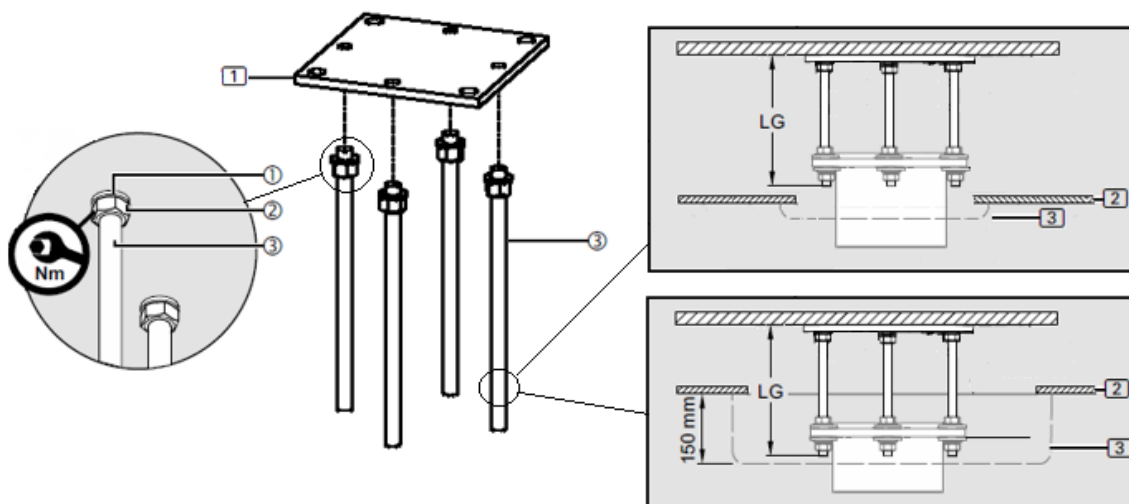
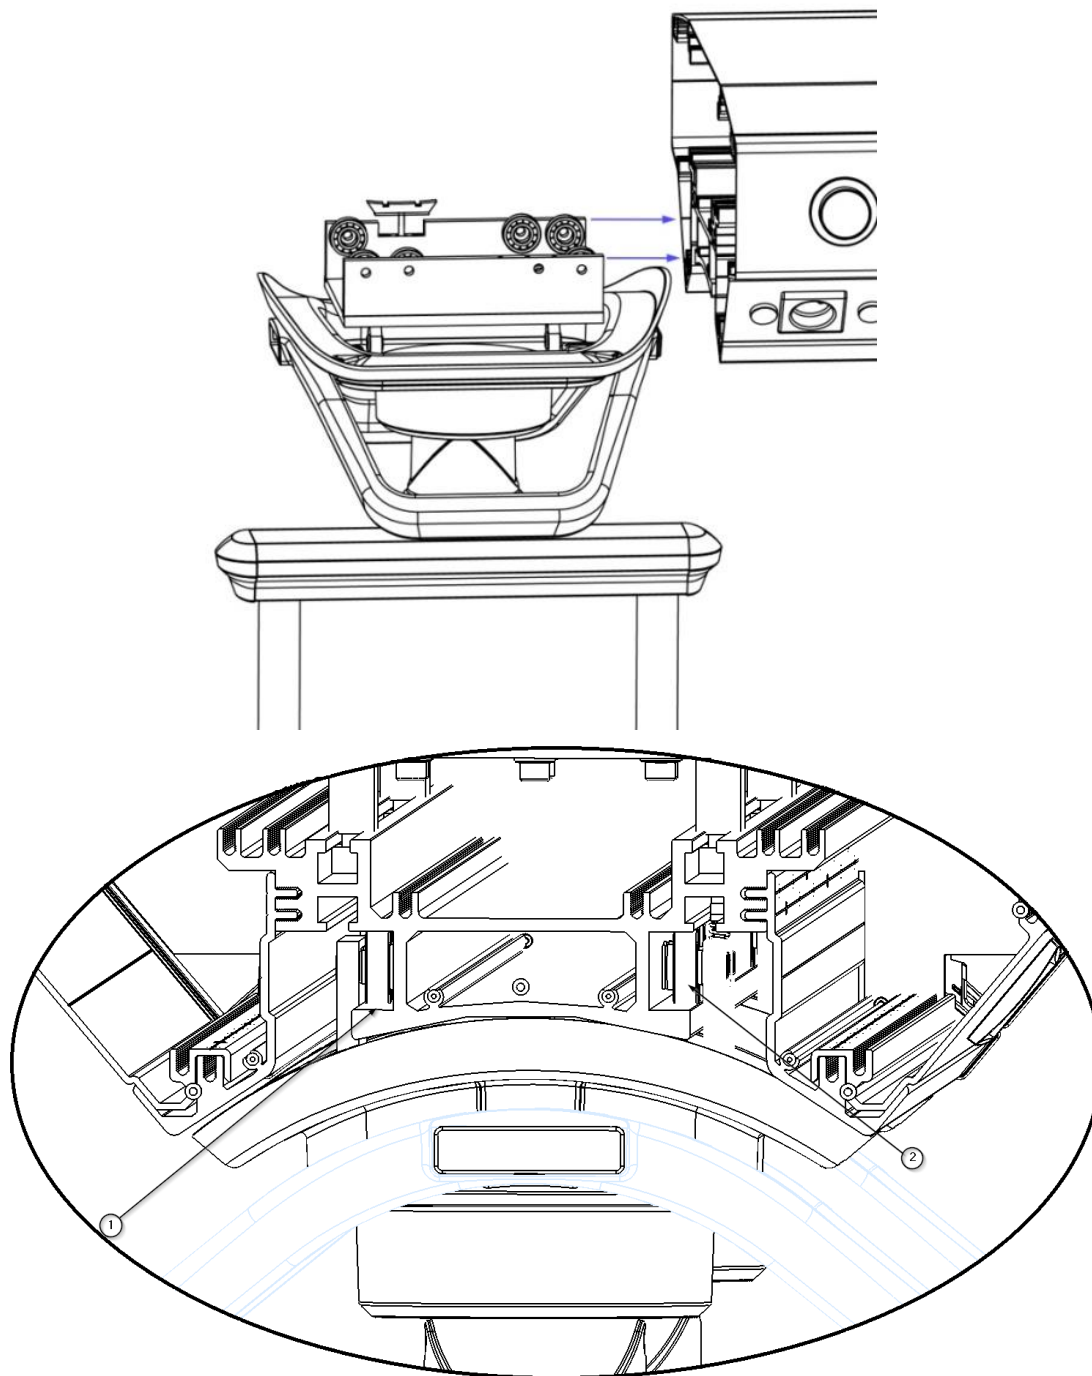

Fig. 6 Installation of interface plate in room with false ceiling
Fig. 14 Assembly of the trolley
There are two different configurations if a downpipe is installed in a room with a false ceiling. One possibility is that the distance between the floor and the false ceiling completely covers the length LG of the threaded bolts ③, in this case a flat ceiling trim with a height of 10mm is supplied as shown in the upper right part of figure 6. The other possibility is that the distance between the floor and the false ceiling is not sufficient for a correct installation and energy supply passage, in this case a trim of 150mm in height can be ordered (optional) as shown in the lower right part of figure 6.
- Cut the threaded bolts M16 x 350 mm ③ to length if necessary.
- The ceiling trim (3) will be fitted flush with the false ceiling at a later date. It covers the counter plate ④. See figure 14.
- If the threaded bolts M16 x 350 mm ③ have been cut, remove the burrs to ensure maximum thread engagement in the interface plate (1).
- Fit 1 spring washer ① and screw 1 M16 hex nut ② each onto the M16 threaded bolts ③.
- Thread 1 M16 hex nut ② each onto the M16 threaded bolts ③ and then fit 1 spring washer ① each.
- Insert the carriage with the bearings ② into the guide in the centre of the main body ① as shown in figure 14.